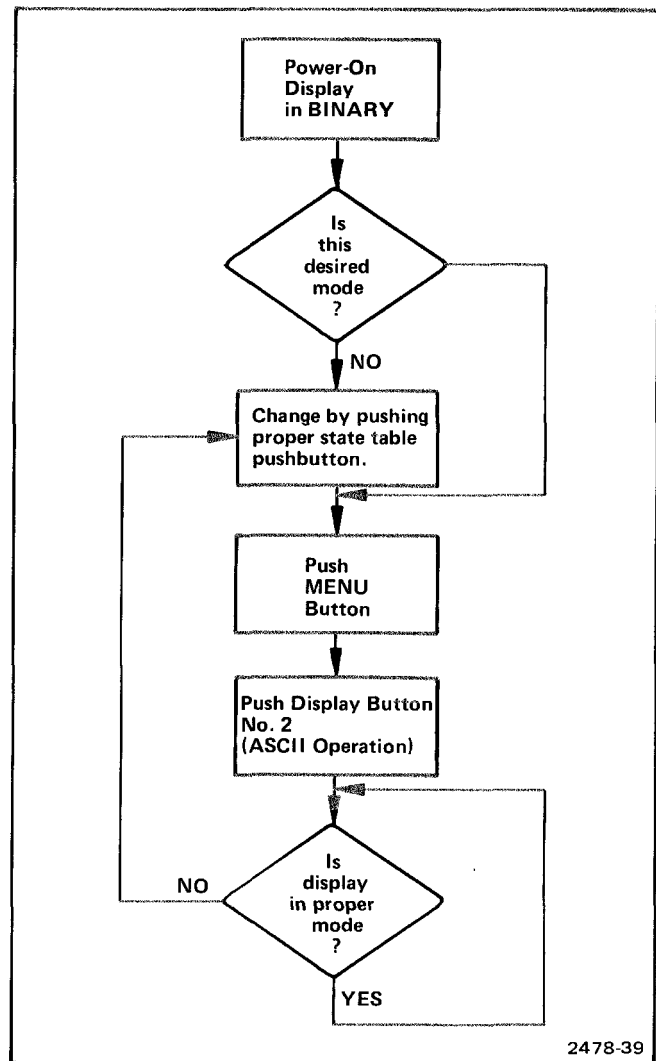

Figure 4-3. Changing display mode in ASCII operation.
- The number to the right of the ASCII character (or mnemonic) is its value in either hex ("\$" precedes the value), octal ("@" precedes the value), or binary depending on which STATE TABLE push button (HEX, OCTAL, or BINARY) was depressed prior to selecting the MENU push button. See Figure 4-3.